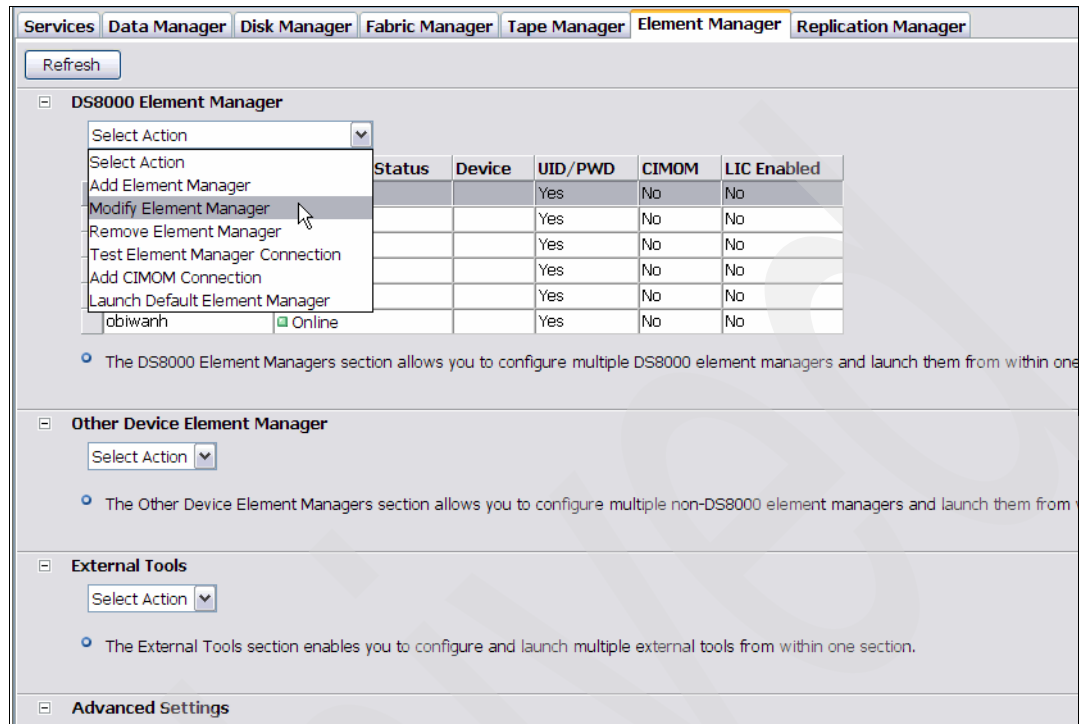

Figure 12-7 Modify Element Manager
2. Select the DS8700 system for which the password needs to be modified and, from the Select action drop-down menu, click **Modify Element Manager**, as shown in Figure 12-7.